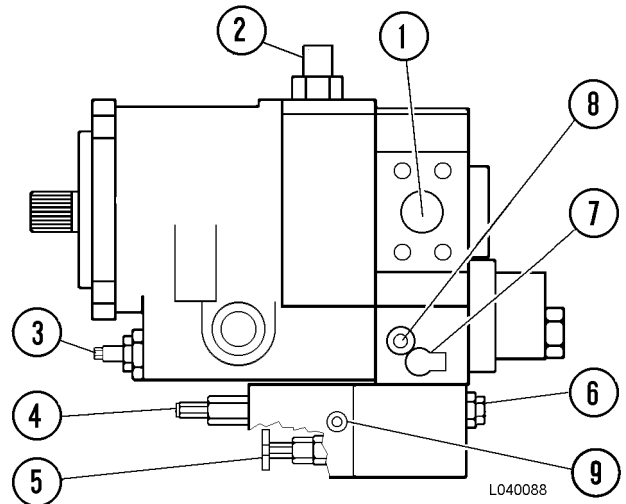

FIGURE 4-15. PUMP ASSEMBLY
Figure 4-15 shows the steering pump and the location of the pressure control adjustments and stroke flow (flow) adjuster.
*Note: Stroke adjuster (3, Figure 4-15) is set at the factory to provide maximum pump flow and adjustment is not normally required. If the truck is operated at high elevations, 10,000 ft. (3,050 meters) above sea level or more, it may be necessary to readjust the stroke control to reduce pump flow to prevent pump cavitation under certain conditions. If the truck is operating at high altitude and problems are experienced, consult your Komatsu service representative for adjustment procedures.*